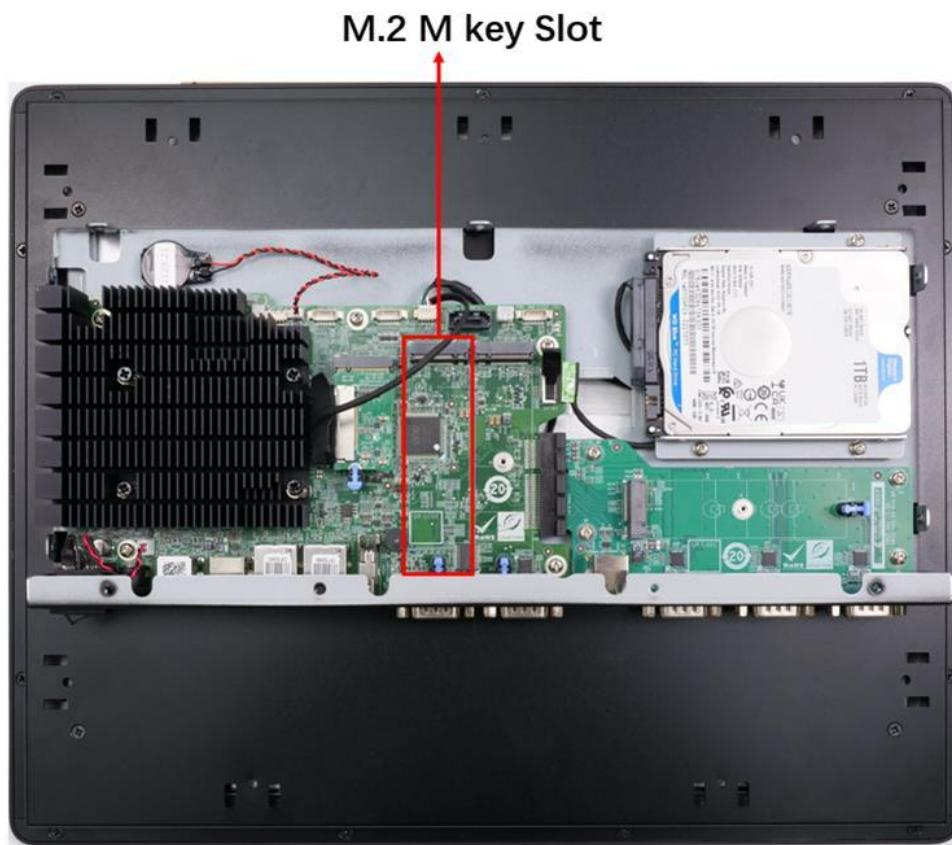

Figure 3-5: M.2 Slot Location
Step 2: Locate the M.2 slot as shown in Figure 3-5.